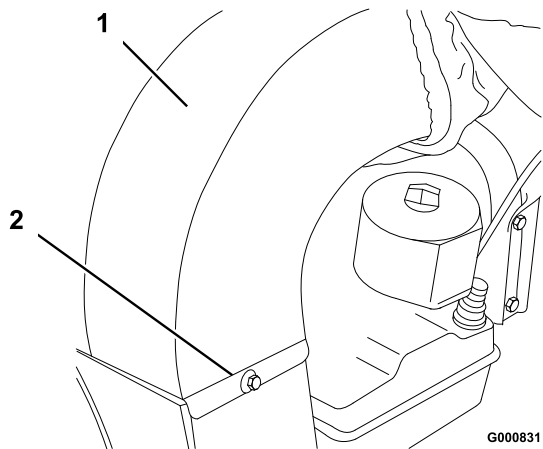

Figure 8
1. Install the discharge chute and secure it with a bolt (1/4 x 1/2 inch) and lock washer (1/4 inch) (Figure 8).